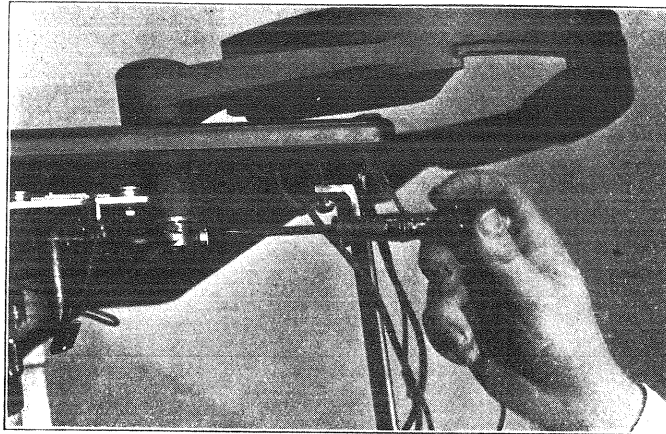

Figure 10—Adjusting Magazine
- (b) *Improper Setting of Magazine*—The horizontal swing of the magazine should be so adjusted when the mechanism is out of cycle that the outer surface at its nearest point to the nearest side of the turntable spindle is $5\frac{1}{2}$ ". This can be done by loosening the two screws as shown in Figure 10, moving the magazine to its correct position and retightening the screws.